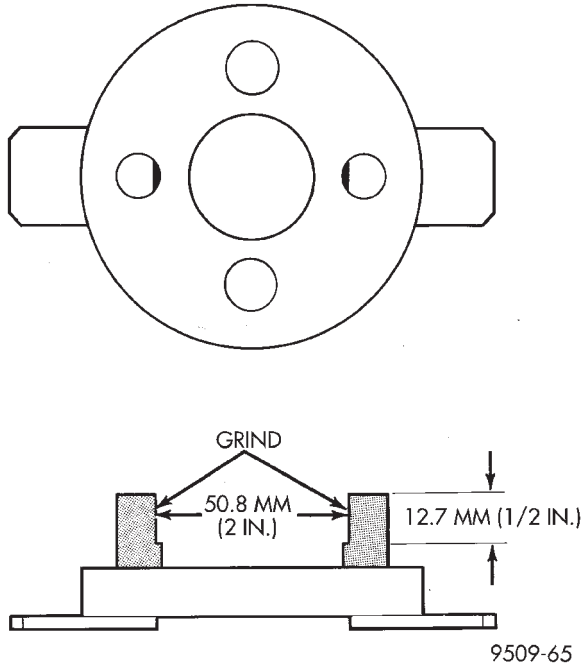
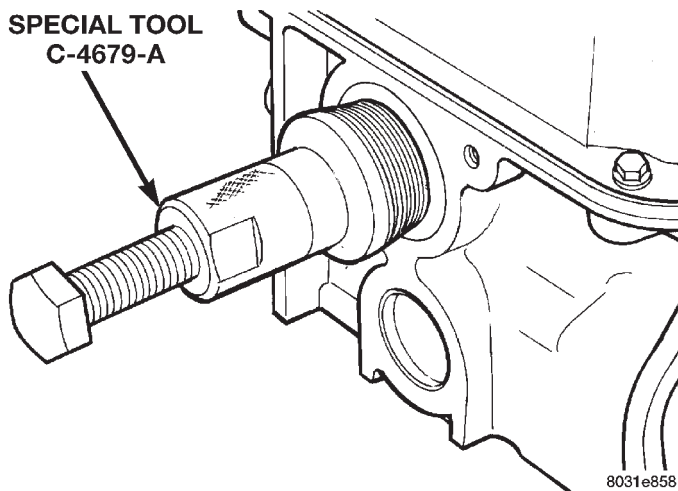

Fig. 88 Modification to Special Tool
Fig. 89 Removing Camshaft Oil Seal
- (1) Remove front timing belt cover, timing belt and tensioner assembly. Refer to procedures in this section.
- (2) Remove camshaft sprocket bolt, with the Modified Special Tool C-4687-1 as shown in (Fig. 88).
- (3) Hold camshaft sprocket with modified tool while removing bolt. Remove sprocket from camshaft.
- (4) Remove rear timing belt cover.
- (5) Remove camshaft seal using Special Tool C-4679-A (Fig. 89).
(3) Install camshaft sprocket retaining bolt. Hold camshaft sprocket with Special Tool C-4687-1 (Fig. 88) and tighten bolt to 115 N·m (85 ft. lbs.).
(4) Install timing belt tensioner, timing belt, and front cover. Refer to procedures in this section.